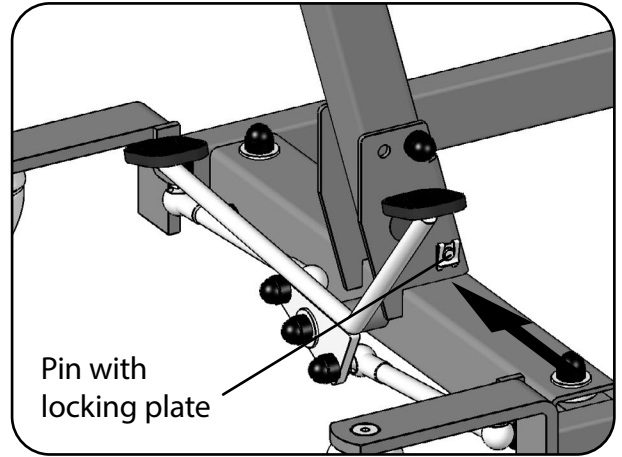

Fig. 6.2.1.04 – Stand mast holder
8. Remove the pin with the locking plate from the retaining plate on the lifting arm holder (Fig. 6.2.1.06).